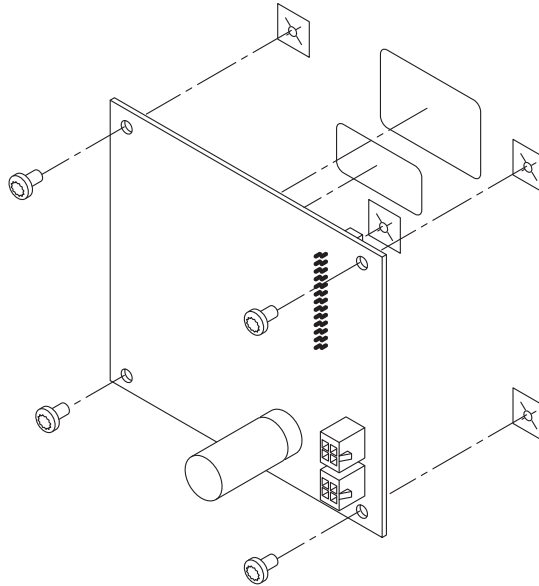

Figure 4. Controller Card Mounting
Refer to Figure 4, below, to mount the audio operator interface display card and microphone.
1. Use four 322-123 Nuts and four 268-009 Washers to secure the 637-141 Bracket to the inside front of the expansion box. Note that there are only two locations where the bracket can be mounted, as shown in Figure 4.